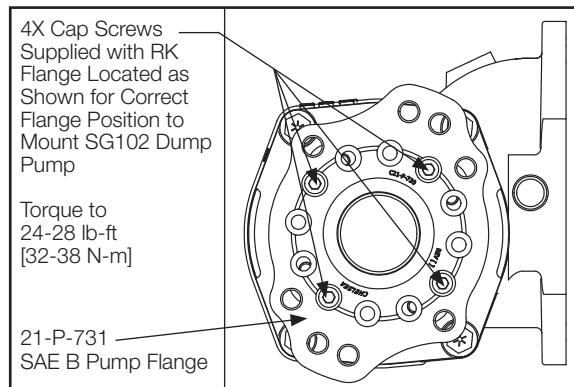

Figure 10
2. For proper pump orientation with pump support brackets, please note the angle of RK output pump flange (Fig. 10).